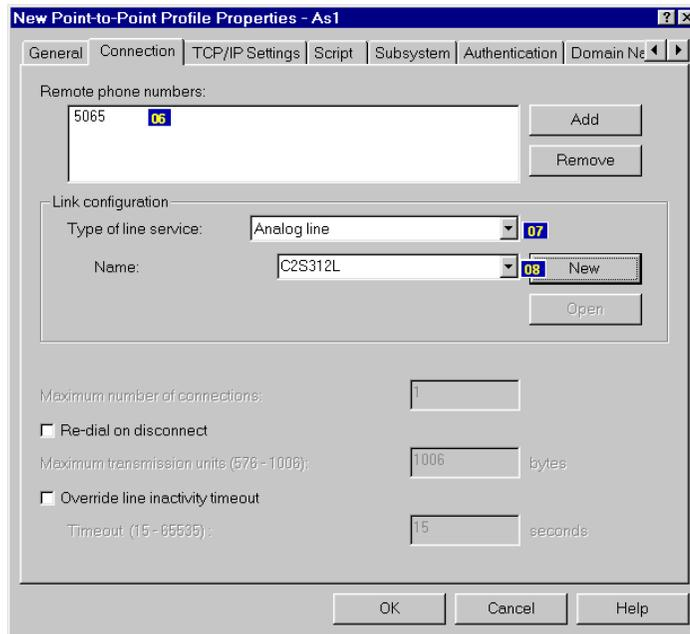

Figure 24. New Point-to-Point Connection page
3. Select and configure the **Connection** page (Figure 24) of the PPP profile.